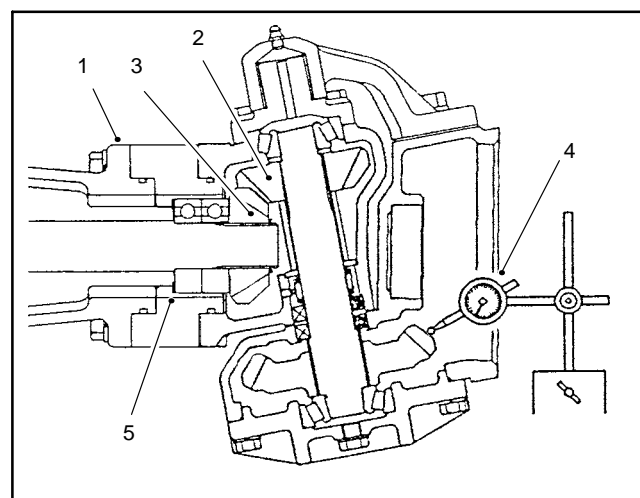

Figure 20
7. Temporarily install the bevel gear case/axle case assembly on the axle support. Position a dial indicator at the tooth center. Prevent the axle from turning and measure the upper bevel gear to differential shaft gear backlash (Fig. 20).